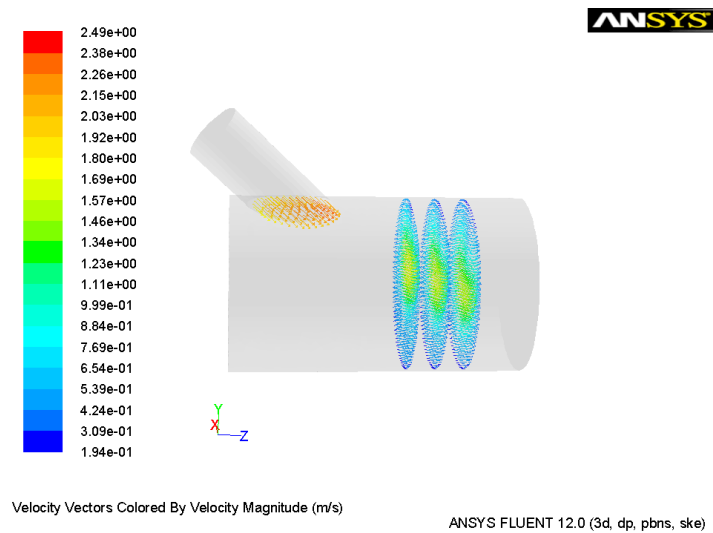

Figure 4: Velocity Vectors Colored by Velocity Magnitude
3. Display velocity vectors (see Figure 4).